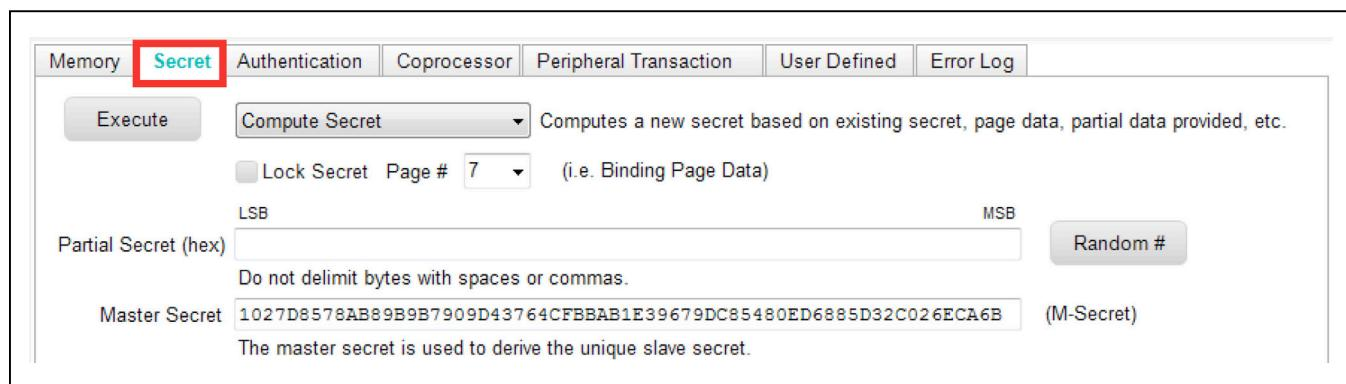

Figure 25. Secret Tab with M-Secret
- 21) Next, Install the M-Secret into the MAX66300. Select the **Secret** tab (Figure 25).